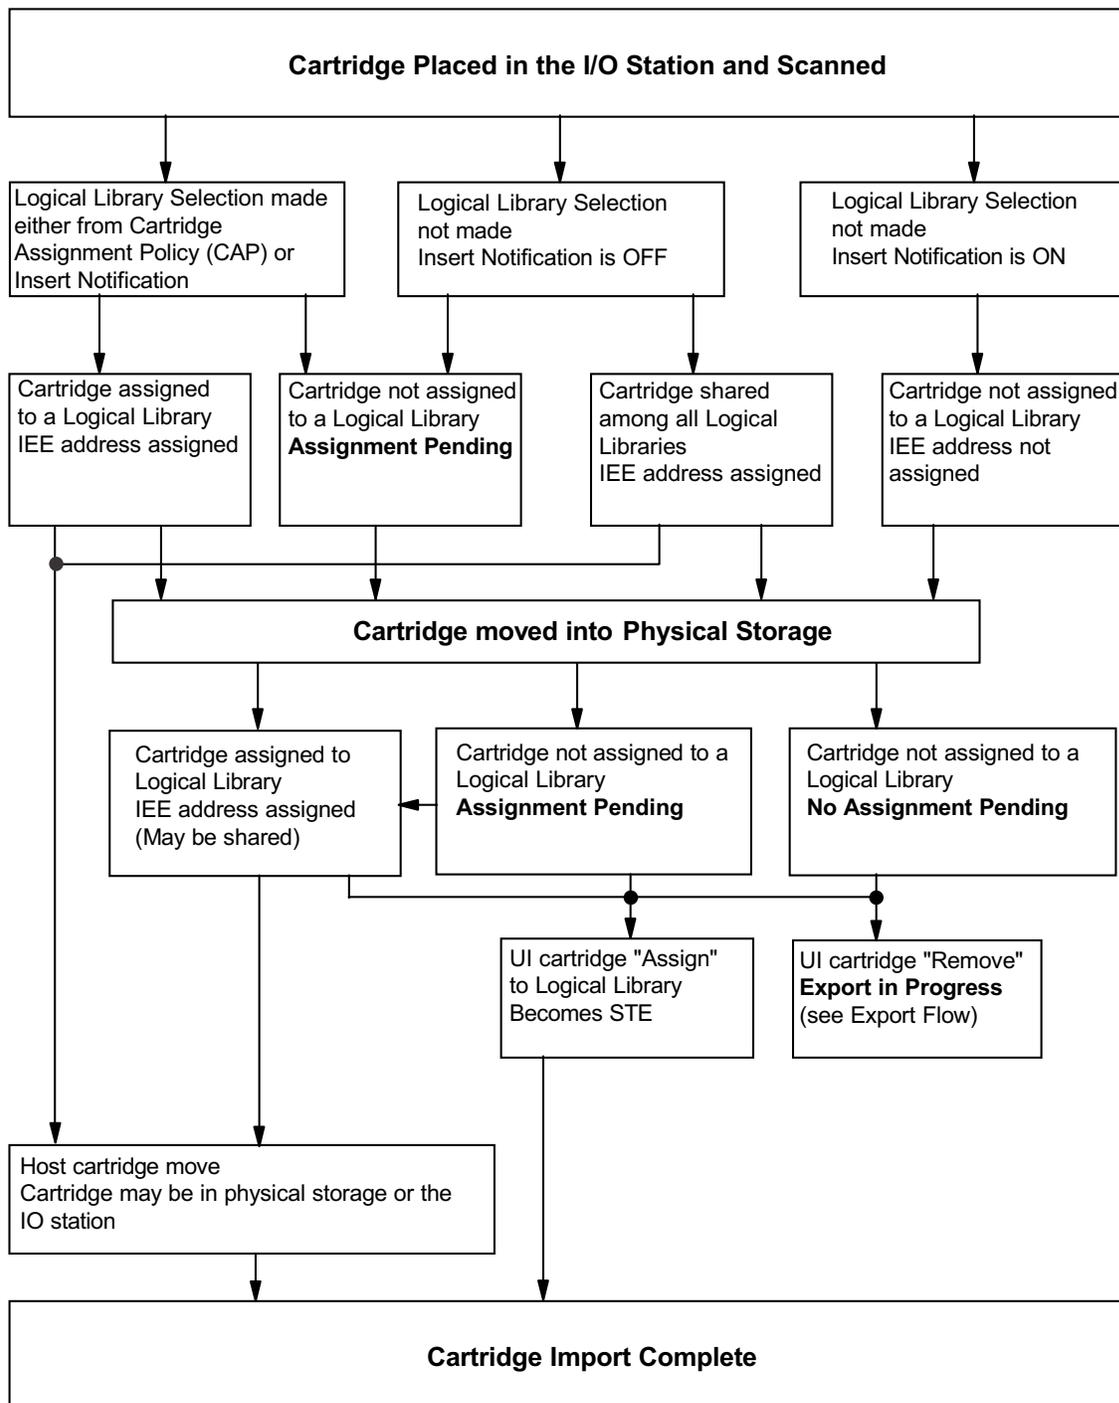

Figure 26. Scenarios for importing cartridges into the TS3500 tape library when virtual I/O slots are enabled
2. After you have seated the cartridges, the library will automatically move them into storage slots. How each cartridge is assigned to a logical library varies, depending on whether the cartridge assignment policy and insert notification features are set. For additional details, see Figure 26 on page 80.
- See Figure 26 on page 80, then follow the procedure in “Assigning cartridges to a logical library” on page 116.